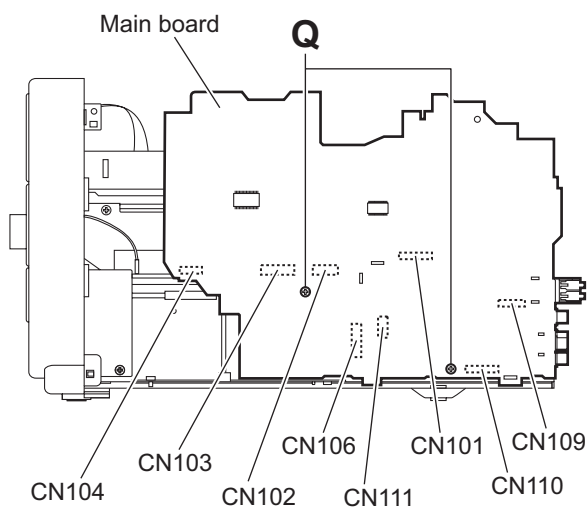

Fig.13
- From the right side of the main body, remove the two screws **Q** attaching the main board. (See Fig.13.)
- Disconnect the connectors (CN101 to CN104, CN106 and CN110) on the main board toward this side. (See Fig.13.)
- From the forward side of the main board, disconnect the wires from the connectors (CN109 and CN111). (See Fig.13.)